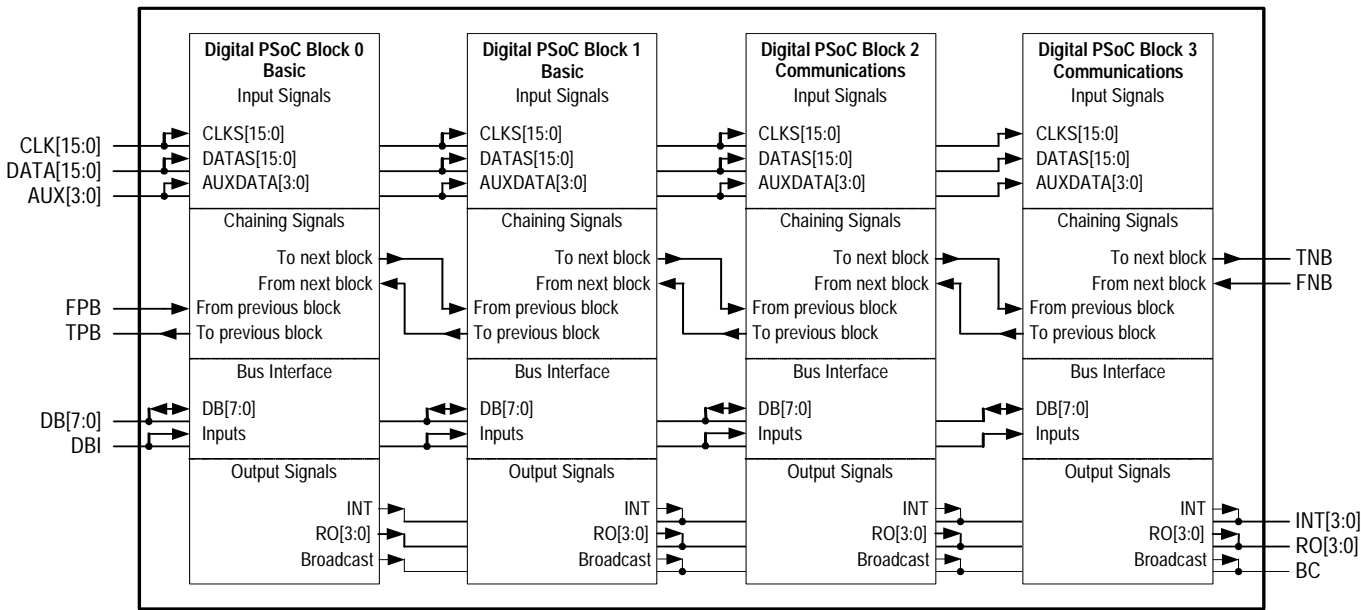
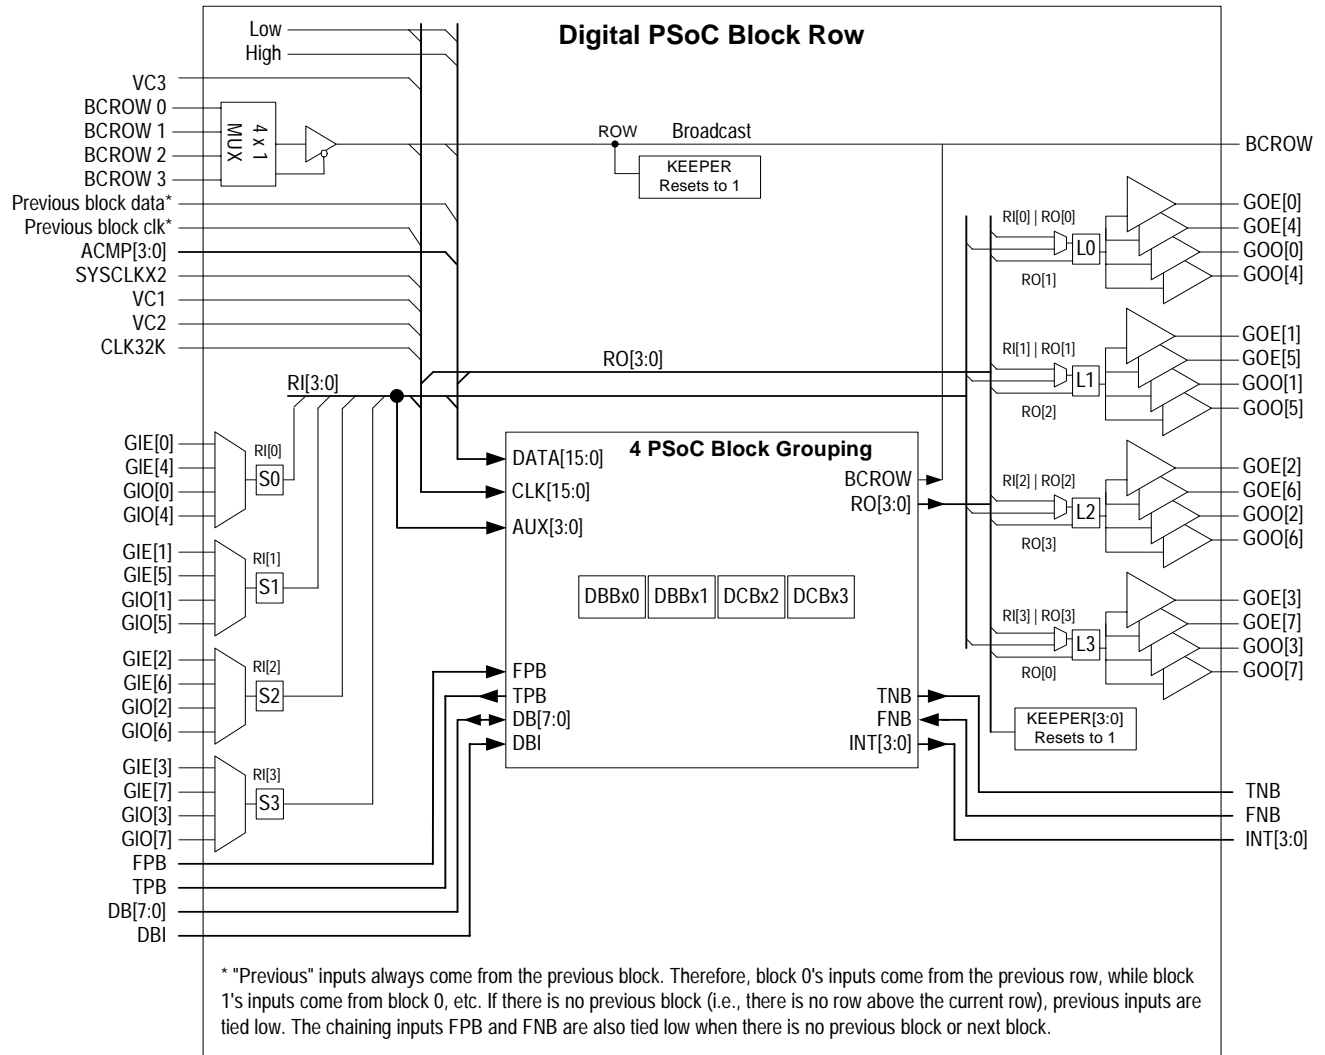

Figure 16-1. Detailed View of Four PSoC Block Groupings
Figure 16-2. Digital PSoC Block Row Structure
In Figure 16-1, within a Digital PSoC Block row, there are four digital PSoC Blocks. The first two blocks are of the type basic (DBB). The second two are of the type communication (DCB). This figure shows the connections between digital blocks within a row. Only the signals that pass through the bold line in Figure 16-1 are shown at the next level of hierarchy (Figure 16-2 on page 195).
In Figure 16-2, the detailed view of the four PSoC block grouping, as seen in Figure 16-1, has been replaced by the box in the center of the figure labeled “4 PSoC Block Group-
ing.” The rest of the configurable nature of the Row Inputs (RI), Row Outputs (RO), and Broadcast clock net (BC) is shown. The next level of hierarchy is shown in Figure 16-1.
The only configurable inputs to a Digital PSoC Block Row are the Global Input Even and Global Input Odd 8-bit busses. The only configurable outputs from the Digital PSoC Block Row are the Global Output Even and Global Output Odd 8-bit busses. Figure 16-2 on page 195 illustrates the relationships between global signals and row signals.
Notice on the left side of Figure 16-2 that global inputs (GIE[n] and GIO[n]) are inputs to 4-to-1 multiplexers. The output of these multiplexers are Row Inputs (RI[x]). Because there are four 4-to-1 multiplexers, each with a unique set of inputs, a row has access to every global input line in a PSoC device.
The outputs from a Digital PSoC Row are a bit more complicated than the inputs. Figure 16-2 on page 195 illustrates the output circuitry in a Digital PSoC Row. Notice in the figure a block labeled “Lx.” This block represents a 2-input lookup table (LUT). The LUT allows the user to specify any one of 16 logic functions that should be applied to the two inputs. The output of the logic function will determine the value that may be driven on to the Global Output Even and Global Output Odd busses. Table 16-5 lists the relationship between a lookup table's four configuration bits and the resulting logic function. Some users may find it easier to determine the proper configuration bits setting by remembering that the configuration's bits represent the output column of a two input logic truth table. Table 16-5 lists seven examples of the relationship between the LUT's output column for a truth table and the LUTx[3:0] configuration bits.